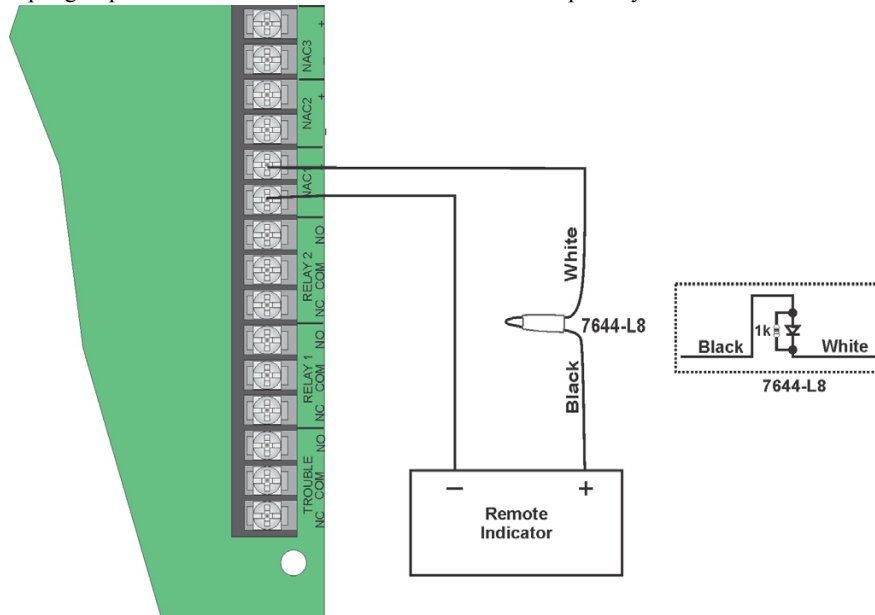

Figure 4.50 Polarity Reversal Connection Using the 7644-L8
1. Wire the 7644-L8 to the control panel as shown in Figure 4.50. Do not install an EOL resistor on the terminals of the NAC circuit used.